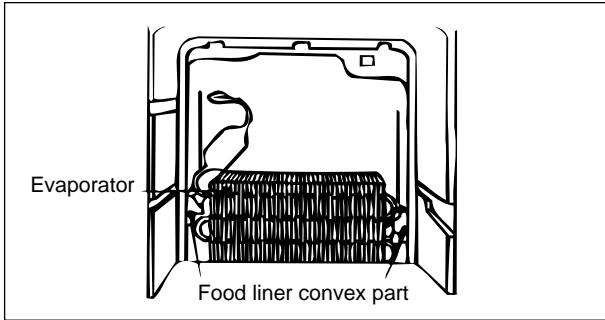

Fig. A-21
1. Take out F-louver ass'y (Fig. A-21).
1. Install Evaporator as shown in Fig. A-21 in the reverse order of item 2.
2. Install EV insulation as shown in Fig. A-21.